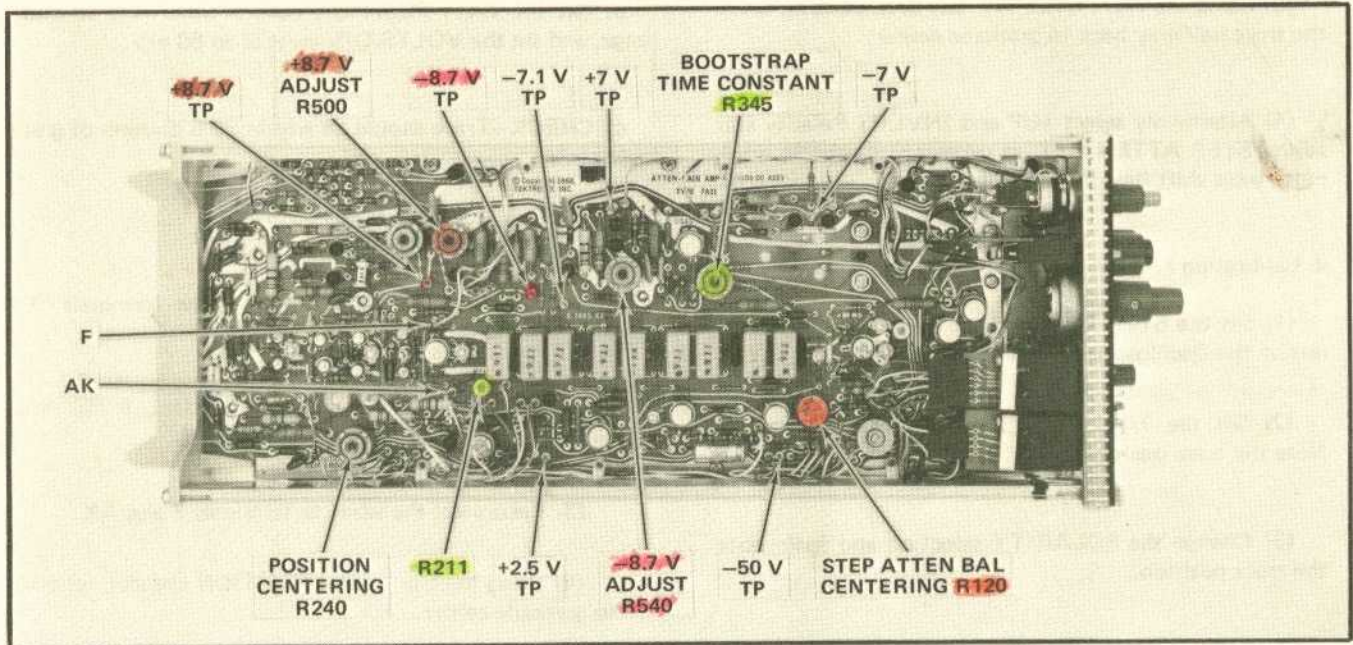
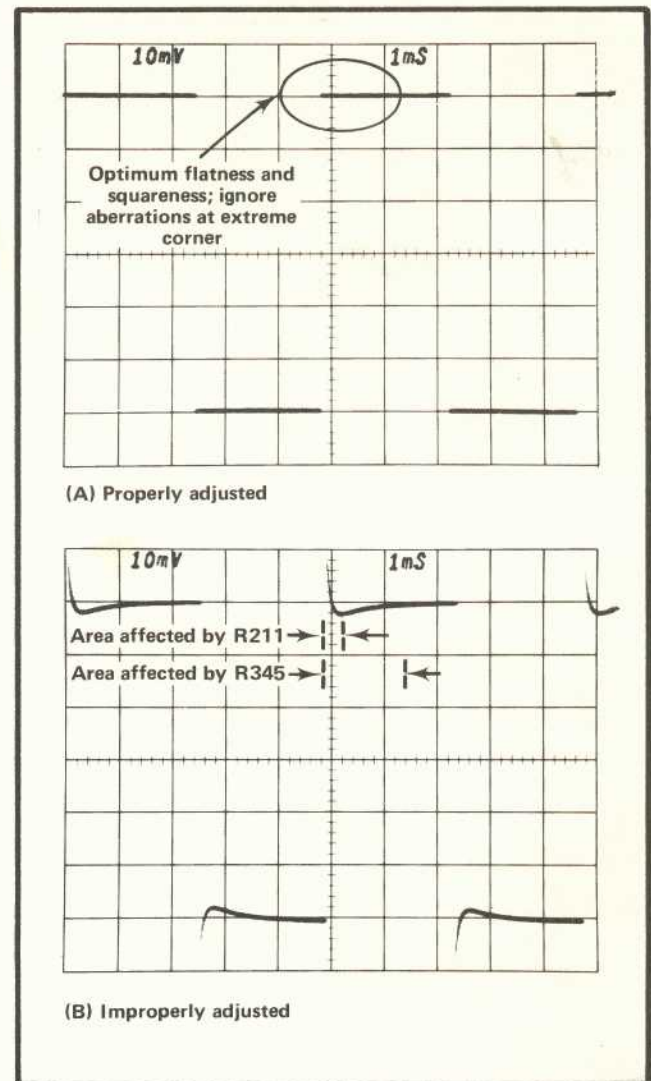

Fig. 5-4. Test point and adjustment locations for steps 1 through 4.
Fig. 5-5. Mid-frequency response waveforms, step 4.
b. CHECK—Voltages. Using the DC Voltmeter (item 3), check the voltages listed in Table 5-3. Test points are shown in Fig. 5-4.
c. ADJUST—+8.7 V ADJUST, R500, and -8.7 V ADJUST, R540, (Fig. 5-4) as necessary to have the applicable power supplies within allowable values. Note that R540 also controls the -7.1 V supply. The +7 V, -7 V, and +2.5 V supplies are not adjustable.
(1) Set the STEP ATTEN BAL to midrange and pull out on the Oscilloscope Beam Finder knob.
(2) Set the 7A11 POSITION control to midrange. Note the trace position.
(3) Change the POLARITY selection and again note the trace position.
(4) ADJUST—STEP ATTEN BAL CENTERING, R120 (Fig. 5-4) as necessary to set the trace halfway between the two observed positions.
(5) Alternately select +UP and INVERT Polarity and adjust ATTEN BAL CENTERING R120 (Fig. 5-4) as necessary to obtain minimum trace shift.
(6) Using the 7A11 POSITION control, set the trace to graticule center.
(7) Return the Beam Finder switch to normal by pushing in and releasing it.
(8) Alternately select +UP and INVERT Polarity and adjust ATTEN BAL CENTERING R120 (Fig. 5-4) as necessary to obtain minimum trace shift.
(9) Select + UP Polarity at the 7A11.
(1) Disconnect the connectors from terminals "F" and "AK" (Fig. 5-4).
(2) ADJUST—POSITION CENTERING R240 (Fig. 5-4) to move trace to graticule center.
(3) Reconnect the wires to terminals F and AK.
(4) Using the front-panel POSITION control, set trace to graticule center.
(5) CHECK—knob index should be within approximately  $10^\circ$  of top-center.
(6) ADJUST—knob to top center (loosen set screw) with trace at graticule center.
(7) CHECK—knob should be approximately centered in its stop-to-stop travel range.
b. Connect the following components to the Fast Rise + Output of the Type 106 Square Wave Generator (item 4) in the sequence given: 5X GR Attenuator (item 15), 50  $\Omega$  Termination/Adapter (item 12), 7A11 Probe.
e. Check that the Time Base sweep rate is at 1 ms/division and adjust the Time Base Triggering controls to obtain a triggered display as in Fig. 5-5(A).
f. **CHECK—Mid-frequency response.** The displayed top-left corners should be square with optimum flat top as in Fig. 5-5(A). Overshoot, rounding and tilt should not exceed .05 division peak to peak.
g. (Calibration Procedure only.) **ADJUST—R211 and R345** (Fig. 5-4) for optimum square corner and flatness. Rounding, overshoot and tilt should not exceed .05 division peak to peak. Use Fig. 5-5 as a reference. (Observing the display at 5 ms/division may aid in performing the adjustment.)